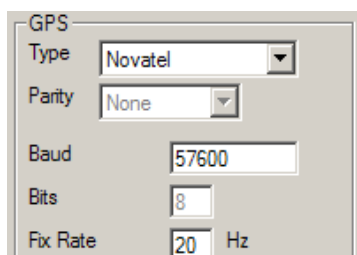

Figure 8 - GPS Tab
8. Now select the VRS Editor GPS tab. See Figure 8 - GPS Tab.